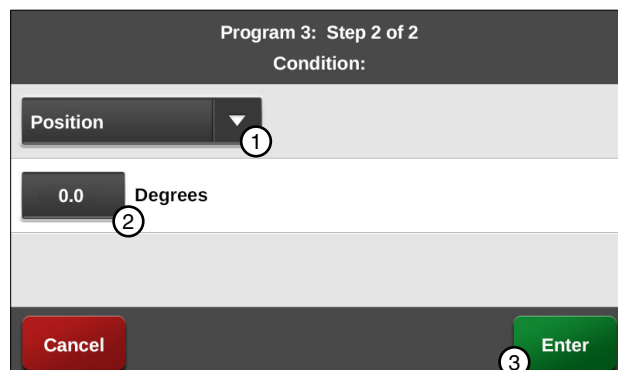

Figure 129-2 1. Position Condition 4. Start/Stop Command
4. Program the position condition for this step. Refer to Figure 129-2.